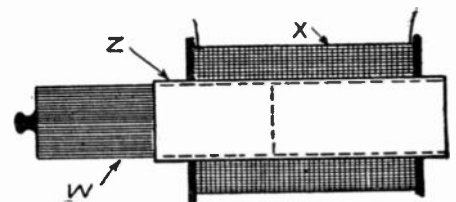

Fig. 3. An induction coil or choke coil designed to control the current supplied to the heating coil of this induction furnace.
The current flowing in the coil is controlled by a reactance coil. It is shown in Figure 3. On a fibre tube 10 inches long (Z) and $2\frac{1}{2}$ inches inside diameter